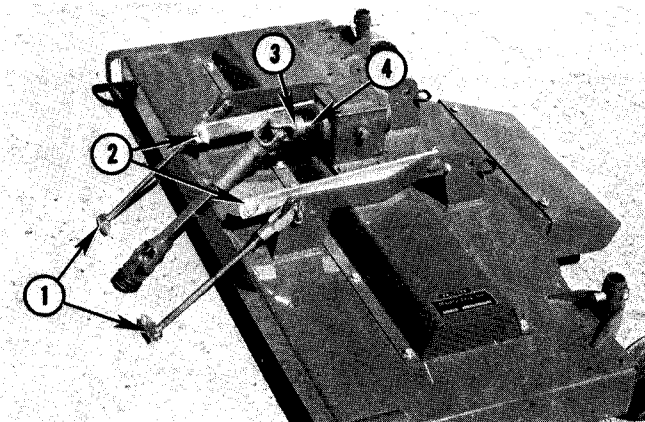

Fig. 50 — Lift Link Installation
2. Install PTO drive shaft on mower gear box using woodruff key and groove pin, Fig. 50.
3. Install lift links on mower as shown in Fig. 50. Note that point ends of all four lift links point inward or toward mower center.